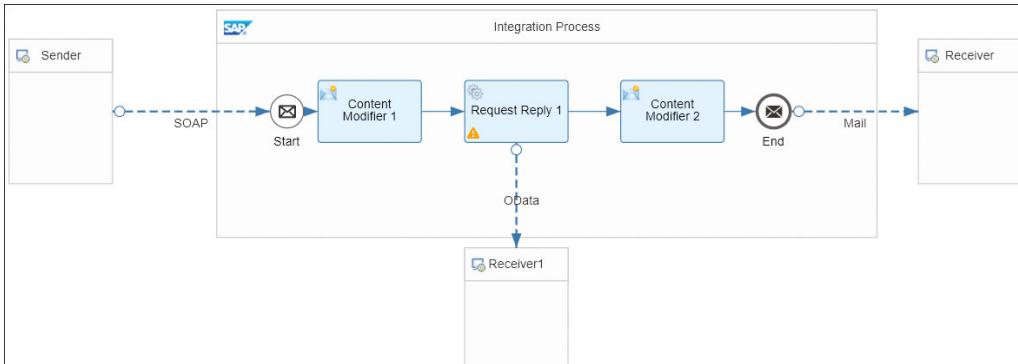

Figure 6.11 Target Integration Flow
Figure 6.11 shows the integration flow.
1. Edit the integration flow and add a second **Content Modifier** between the **Request-Reply** step and the **Message End** event (as shown in earlier Figure 6.11).
4. Add a second **Receiver** (refer to Figure 6.11).